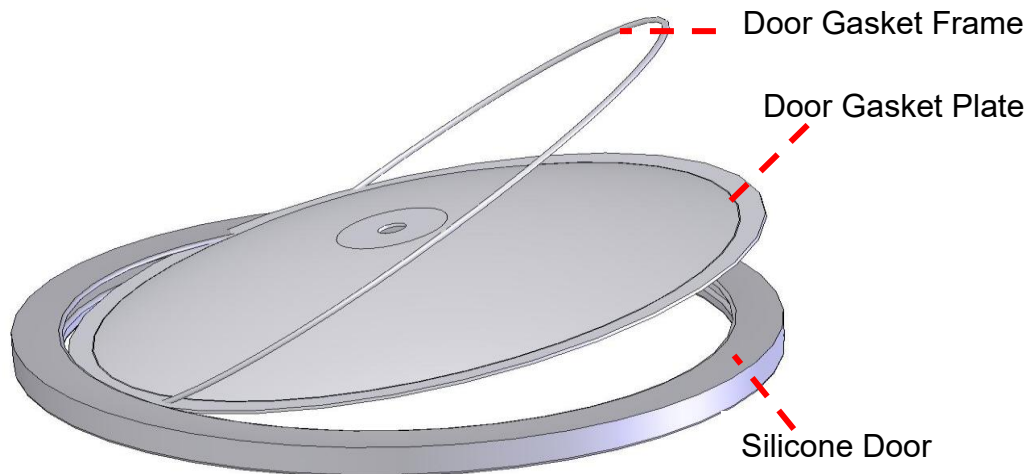

Figure 55
- A. Remove the gasket assembly from the door groove, and then take out the door gasket frame, door gasket plate from the old gasket. Install the door gasket frame, door gasket plate to the new gasket as shown in Figure 55.